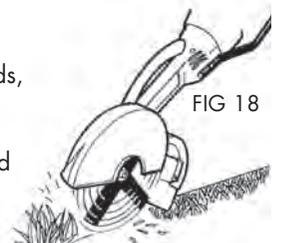
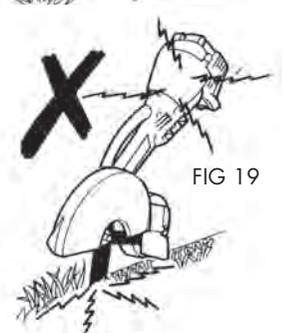

FIG 18
FIG 19
10. Blades should spin under load. If blades rotates slowly, jams or stops in the ground (Fig. 19), lower handles, pull unit back, release trigger and recommence (Fig. 18). Re-adjust blade height (Fig. 15).
11. Clutch: The Atom Edger is equipped with a safety clutch. **DO NOT** run edger if blade is jammed, as clutch shoes will prematurely wear and cause damage if cutting blades do not rotate (Fig. 19).